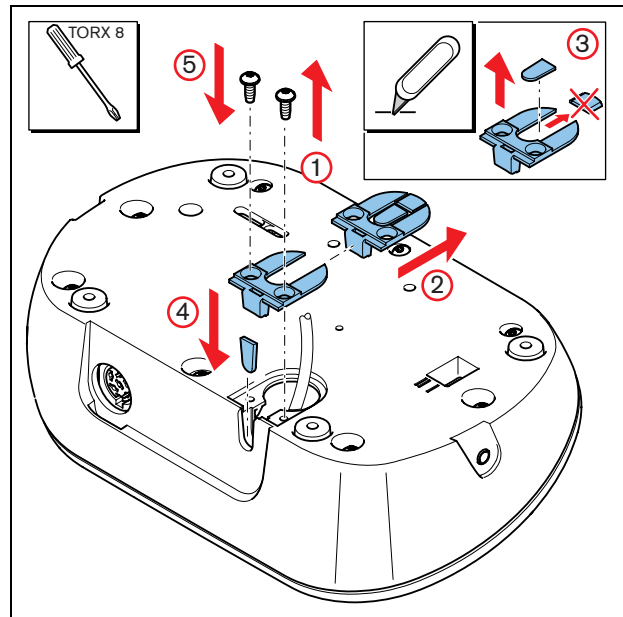

figure 14.13: Move the DCN cable
You can move the DCN cable from the rear side to the bottom side of the discussion unit (refer to figure 14.13).
- Move the DCN cable to the bottom side of the discussion unit (refer to figure 14.13).